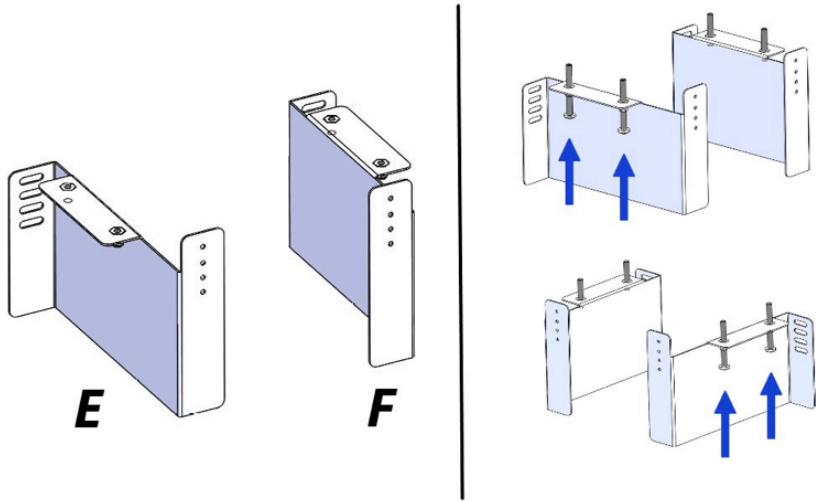
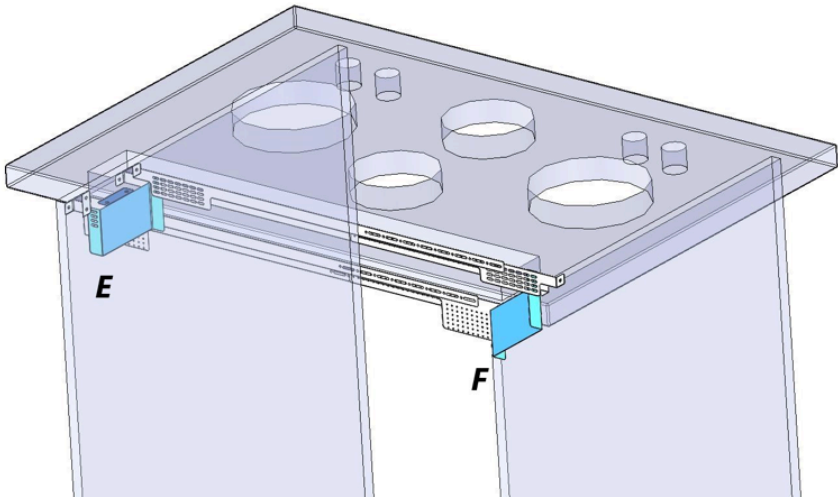
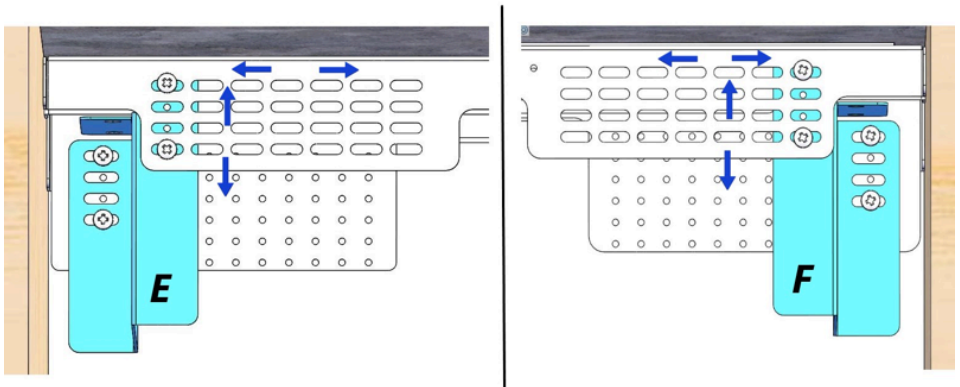

Fig. 10
Fig. 11
Fig. 13
(for an good assembly take the components "E - F" fig.10 and insert them between the accessories, respectively E for the left part and F for the right part, see fig.11, in order to check the correct positioning at the height above said).
6. Take the E - F components (if not present, insert the adjustment screws as shown in fig.10) position them as previously seen (E for the left part and F for the right part, see fig.11) and fix them on both the sides with screws (fig. 13).
Note well the fixing system has several slots to allow adjustments of the downdraft both on the basis of its width (left - right) and on the thickness of the top to be glued on the downdraft (top - bottom) (see fig. 13).